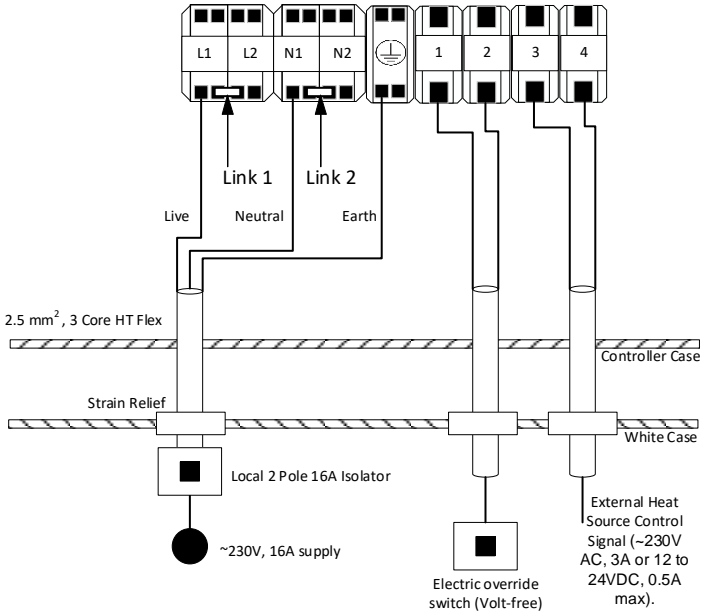

Figure 12.2: HW +i system wiring
- Wire a 2 core PVC insulated cable (minimum 0.75mm2 CSA, 24 x 0.2mm according to BS 6500) from a 2-pole Volt-free contact switch, run the wire into the appliance via the appliance case cabling grommets and then into the control box housing through the hole available. Secure the cables in Terminal T1 & T2 independently (Figure 12.2).
- Wire a 2 core PVC insulated cable (minimum 0.75mm2 CSA, 24 x 0.2mm according to BS 6500), the heat battery controller in this application acts as hot water thermostat. The cable will act as a hot water heating control signal from the heat battery controller terminals T3 & T4 into the appropriate terminals of the heating system wiring centre (please refer to External heat source manual). Please run the wire into the heat battery appliance via the appliance case cabling grommets and then into the control box housing through the hole available. Secure the cables in Terminals T3 & T4 independently (Figure 12.2). The control signal load must be no greater than (~230V AC, 3A or 12 to 24VDC, 0.5A max).